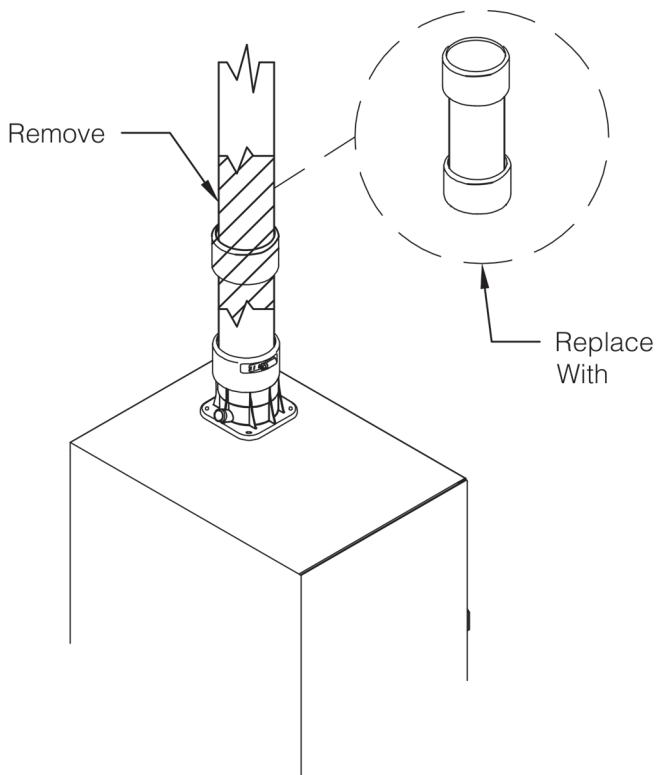

Figure 1
- A. If a *Vent Attenuator* is installed it must be removed before installing the *Intake Attenuator*. To remove *Vent Attenuator*, cut venting apart above and below CPVC coupling nearest to boiler vent adapter (see Figure 1).